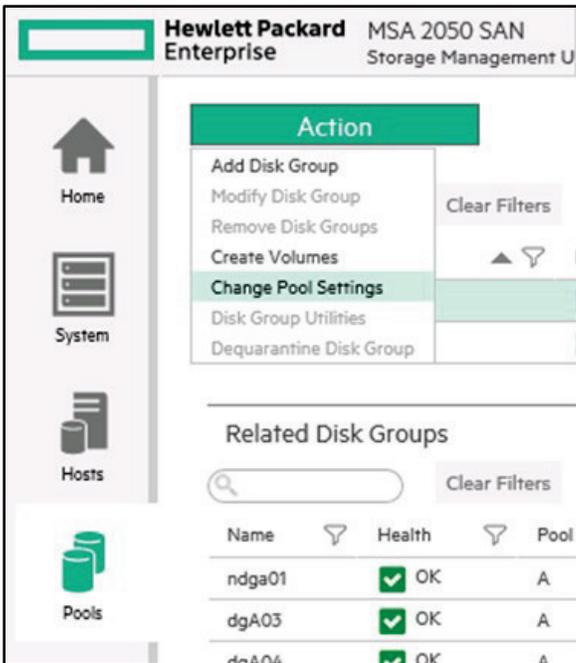

Figure 6. Changing pool settings
3. Uncheck the **Enable overcommitment of pool?** by clicking the box. See Figures 6 and 7.
See Figures 6 and 7 on how to set the thresholds.